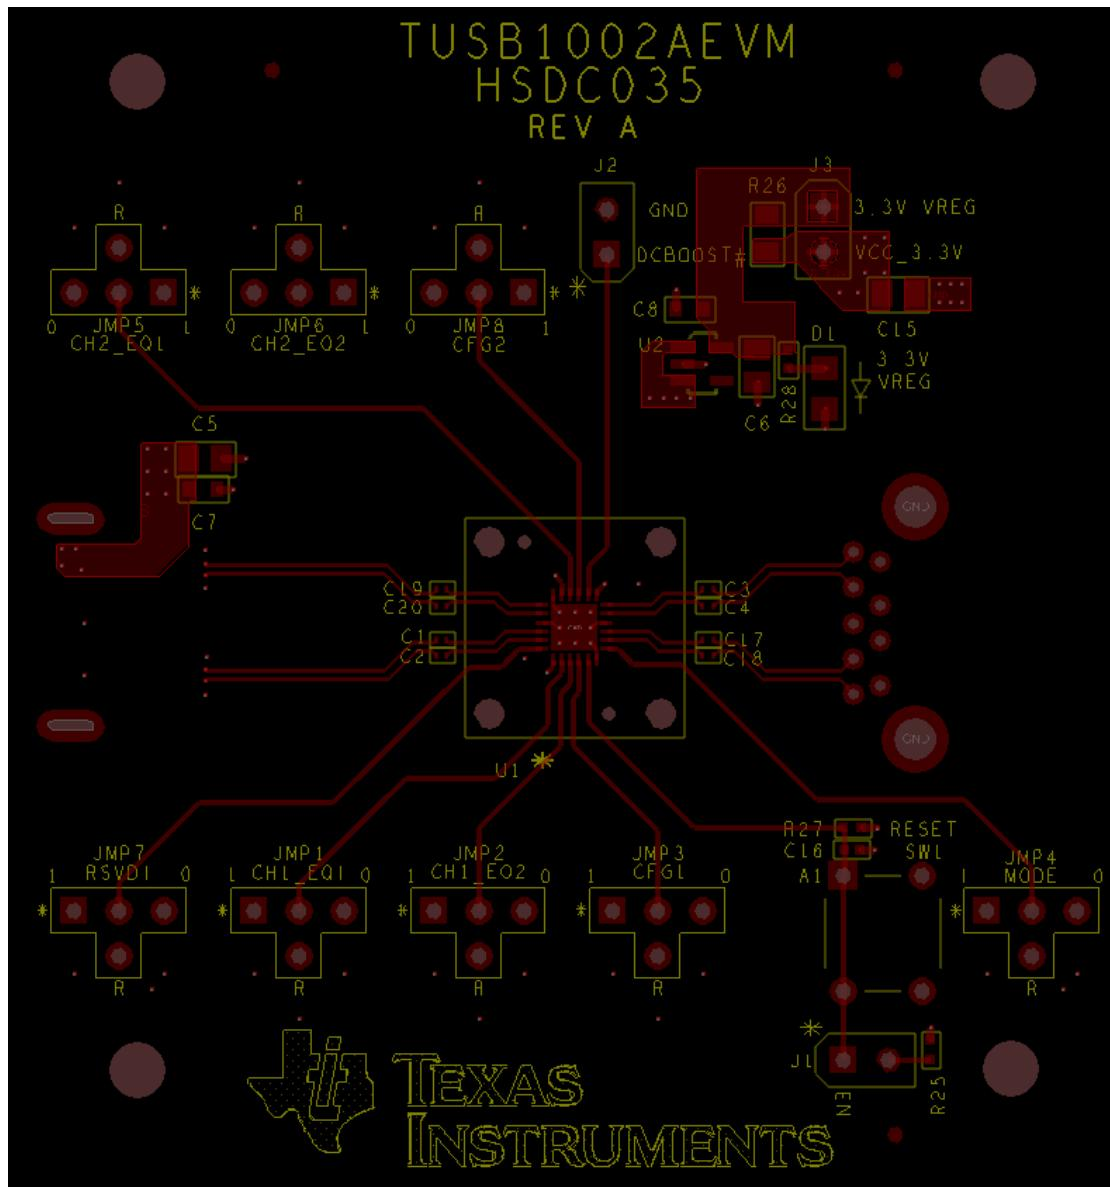
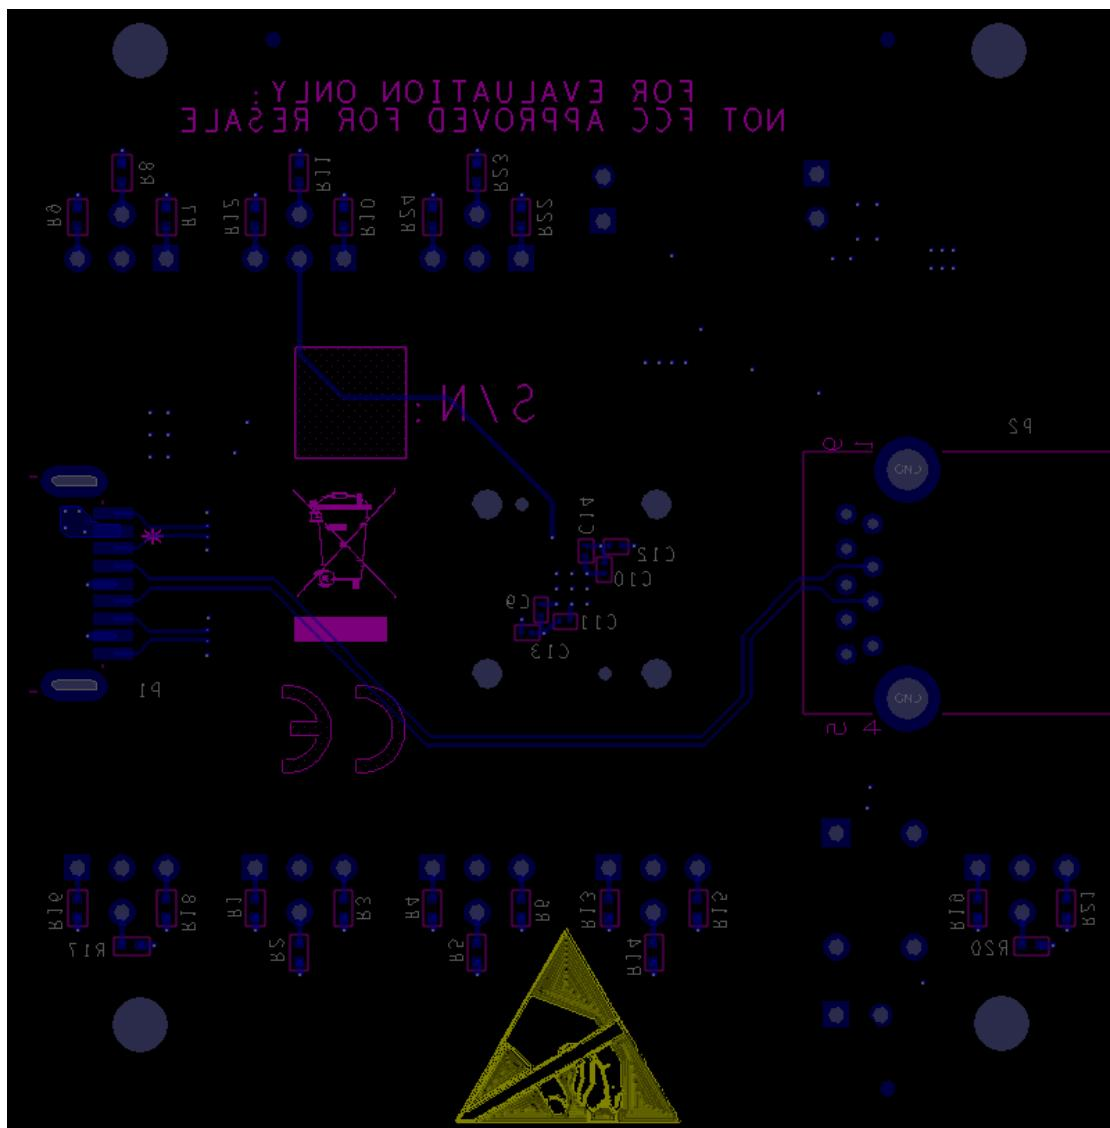

Figure 5. TUSB1002A EVM Layout Layer 1 (Top)
Figure 8. TUSB1002A EVM Layout Layer 4 (BOTTOM)
- Changed Figure 5 through Figure 8 7